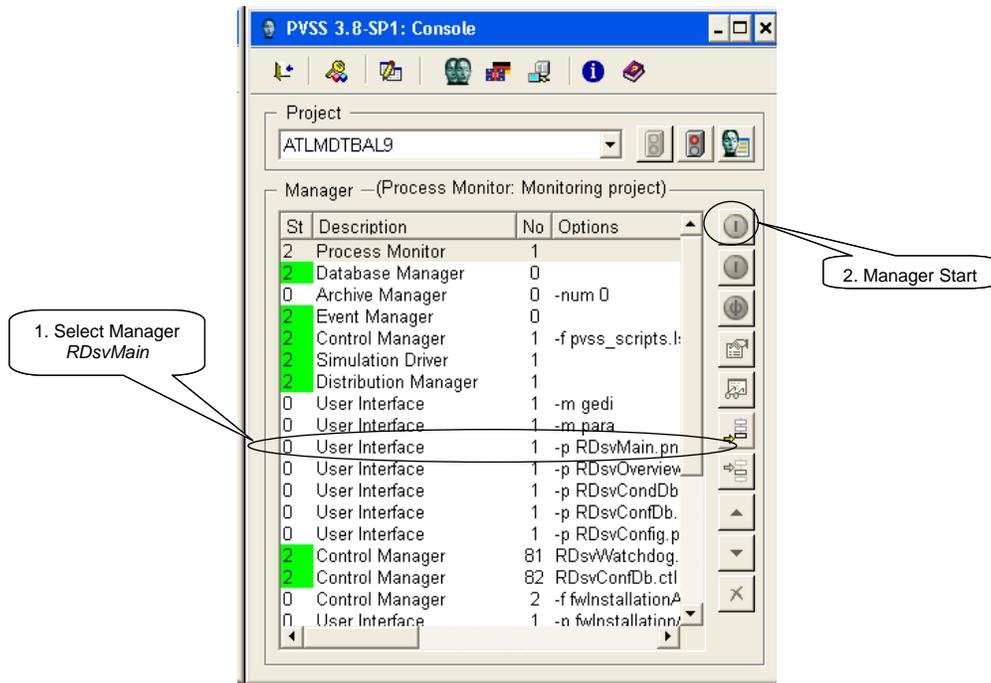

Figure 2.4: Start of RDsvMain panel
3. Startup the PVSS console. Again a shortcut on the desktop might be convenient. After startup the console appears as shown in Figure 2.4.